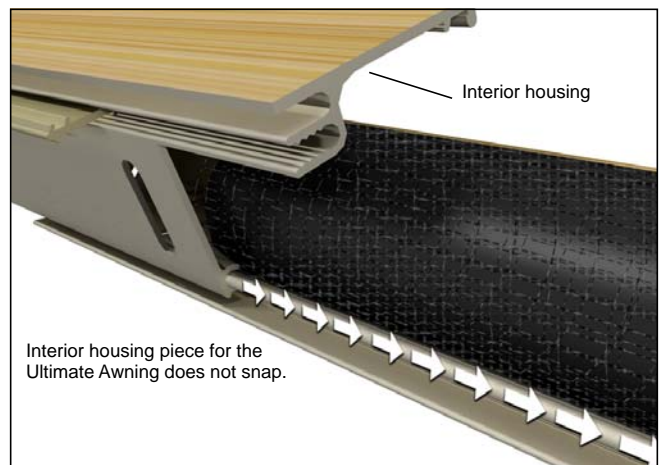

Figure 30 Ultimate Casement parts shown.
5. Reinstall the interior housing by sliding it into place (from ratcheting end) and snapping each end. See figure 30.